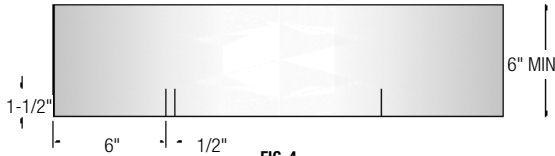

FIG. 4
- C) Cut 1-1/2" slits at each end of the flashing as shown below. (Fig. 4)